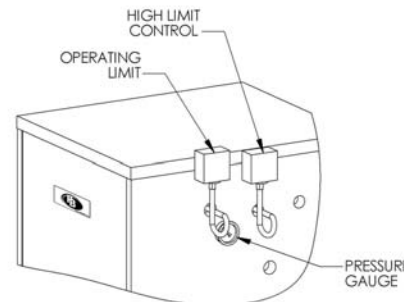

Figure 6.8: Limit Control Installation
6. Limit Control(s): (Figure 6.8)